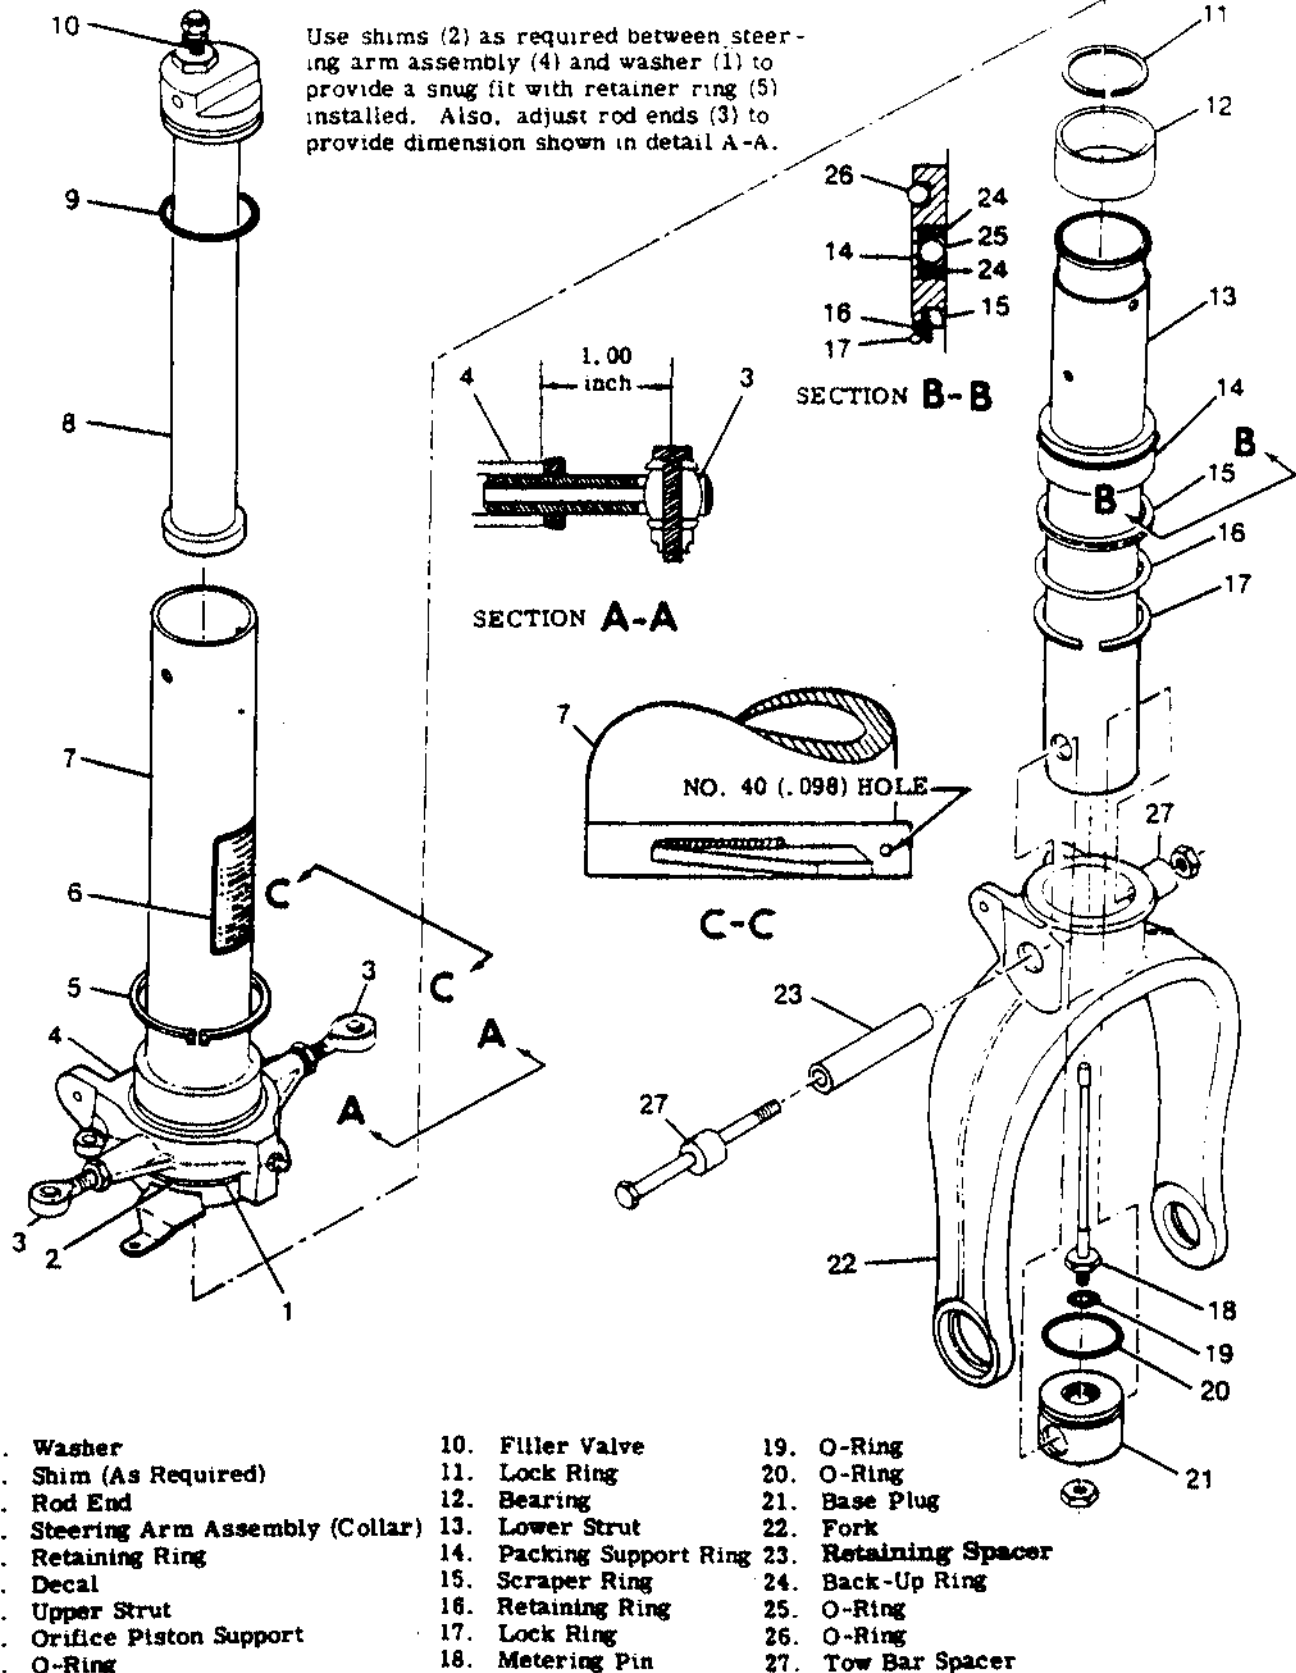

Figure 5-10. Nose Gear Shock Strut Assembly
- 5-47. **NOSE GEAR SHOCK STRUT DISASSEMBLY.** (See figure 5-10.)
5-48. NOSE GEAR SHOCK STRUT INSPECTION AND REPAIR. (See figure 5-10.)
5-49. NOSE GEAR SHOCK STRUT REASSEMBLY. (See figure 5-10.)
- d. Install rod ends (3) in steering collar (4) and adjust rod ends to dimension specified in Section A-A in figure 5-10.
- e. Install O-ring (9) and filler valve (10) in orifice piston support (8) and install orifice piston support in upper strut (7).
- f. Install O-ring (20) and metering pin (18) with O-ring (19) in base plug (21); secure with nut.
- 5-64. **NOSE WHEEL STEERING ADJUSTMENT.** Before attaching nose wheel steering rods to the rod ends protruding from the steering arm assembly, adjust rod ends to the dimension specified in section view A-A in figure 5-10. Since the nose wheel steering system and the rudder system are interconnected, adjustment to one system might affect the other system. Refer to Section 10 for instructions for rigging the nose wheel steering and the rudder system.